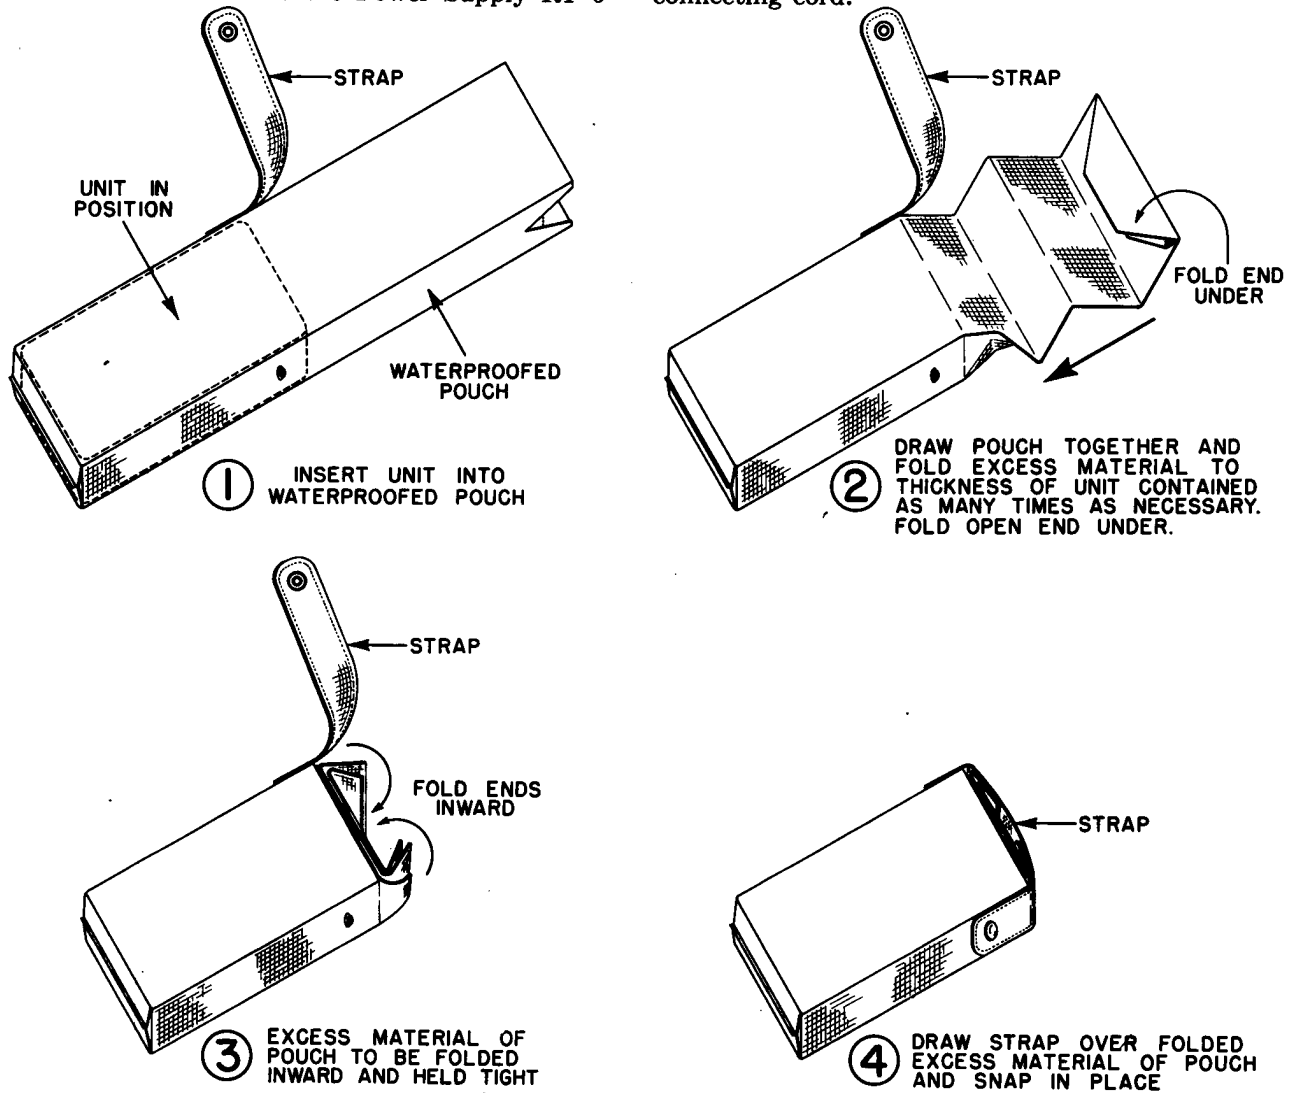

Figure 25. Packaging detail.
a. When not in use, or when transporting, the units should be kept in the plastic pouches provided, as shown in Figure 25. The pouches are waterproof if folded in the prescribed manner.
and Filter-Accessory Unit RA-6. All are used as shown in Figure 25.